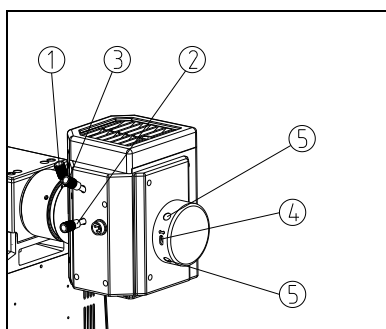

Fig.41
(1) Install the centering objective into the nosepiece to move the centering objective into light path, and turn the frosted glass to the operating position. (See Fig.41)
(2) Move the fluorescence filter block B1 into the light path.
(3) Open the field diaphragm and aperture diaphragm to the largest.
(4) Adjust the condenser adjusting pole ①, the vertical adjusting screw ② of mercury lamp, and the horizontal adjusting screw ③ of mercury lamp to make the filament image projected on the “+” scale of the centering objective. (Fig. 41, 42a)
(5) Adjust the focusing screw ④ of reflecting lens and the centering screw ⑤, to make the reflected image projected on the “+” scale of the centering objective. (Fig. 41, 42b)
(6) Adjust the centering screw ⑤ to make the filament image and reflected image symmetry to the “+” scale of the centering objective. Adjust the focusing screw ④ to make both images with same size. (Fig. 41, 42c)
(7) Adjust the vertical adjusting screw ② of mercury lamp, and the horizontal adjusting screw ③ of mercury lamp to make the two images superposition to the center of “+” scale. (Fig. 41, 42d)
(8) Screw down the centering objective, install the fluorescence objective, and move the 10X objective into the light path. With the fluorescence filter block B1, set the slide on the stage, and rotate the coarse